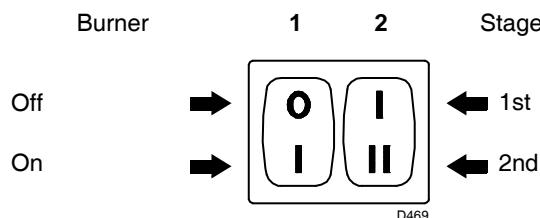
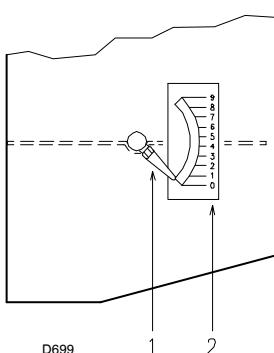
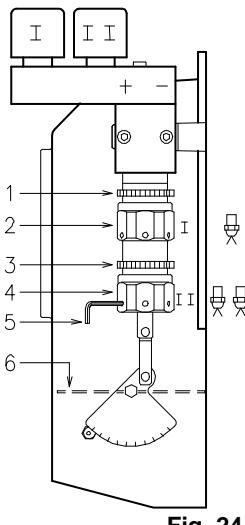

Fig. 22
Fig. 23
Fig. 24
- The pump can be considered to be primed when the light oil starts coming out of the screw 3). Stop the burner: switch 1) (Fig. 22 pag. 21) set to "OFF" and tighten the screw 3).
- Start the burner by closing the control devices and with switch 1) (Fig. 22 pag. 21) in the "ON" position. The pump must rotate in the direction of the arrow marked on the cover.
Set switch 1) (Fig. 22) to "ON".
Keep the burner operating at 1st stage by setting the switch 2) (Fig. 22) to the 1st stage position. Opening of the air gate valve 6) (Fig. 24) must be adjusted in proportion to the selected nozzle: the index 1) (Fig. 23) must be aligned with the notch 2) (Fig. 23) specified in table (Tab. D) This adjustment is achieved by turning the hex element 2) (Fig. 24):
2.3 notch (Fig. 23) aligned with index 1).
When the adjustment is terminated lock the hex element 2) (Fig. 24) with the ring nut 1).
N° = Notch 2) (Fig. 23)
Set switch 2) (Fig. 22 pag. 21) to the 2nd stage position and adjust the air gate valve 6)(Fig. 24) by turning the hex element 4)(Fig. 24), after having loosened the ring nut 3)(Fig. 24).
in order to facilitate adjustment of hex elements 2) and 4)(Fig. 24), use a 3 mm Allen key 5) (Fig. 24).